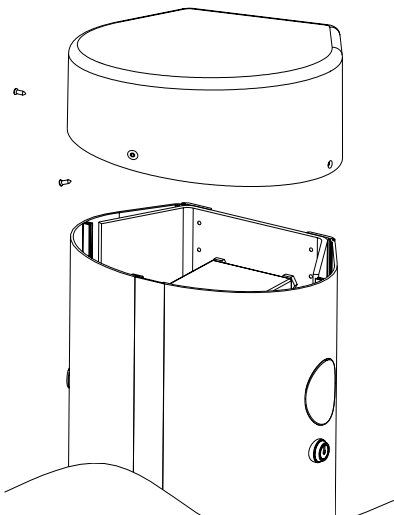

Fig. 3
- Take the top cover off by unscrewing the screws (Fig. 3).